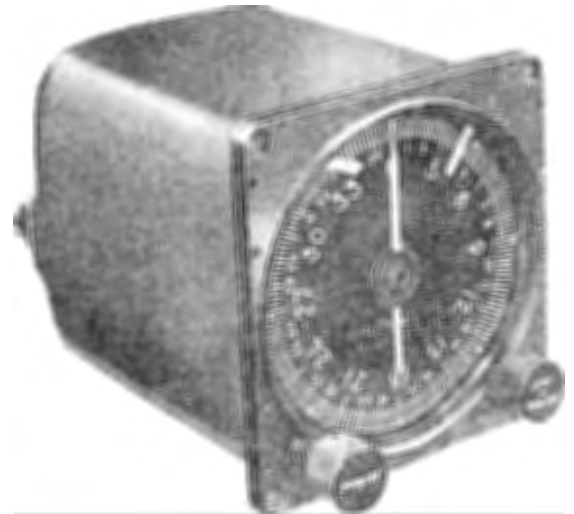

Figure 38A. AF Type C-5C Directional Gyroscopic Indicator
(1) When repairing and overhauling the AF Type C-5C Directional Gyroscopic Indicator it should be tested before disassembly to determine the cause of the failure. Only worn or defective parts need be replaced or repaired.
(2) The disassembly of the AF Type C-5C Directional Gyroscopic Indicator (figure 38A) is divided into two main operations: first, the removal of the five subassemblies of the instrument; and second the disassembly of each. The procedure is given below under subparagraphs b. and c.
(3) The general disassembly precautions given in paragraphs 2.a.(2) and 2.a.(3) should be carefully followed when overhauling the instrument.
(2) Take out the eight (or 16) fillister head screws along the edges of the front bezel (figure 38A) and break the plastic seal between the cover and the front bezel. Use a thin wedge or small knife blade and lightly tap if necessary.